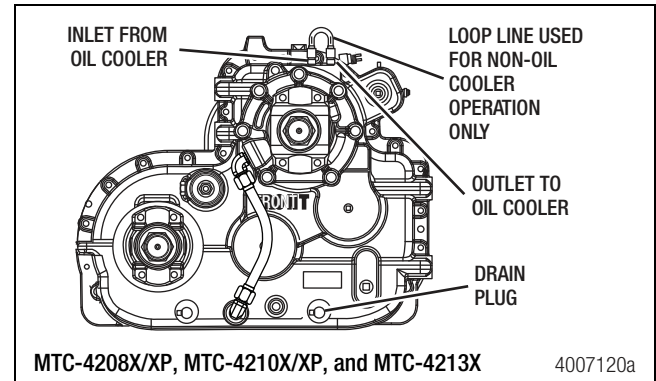
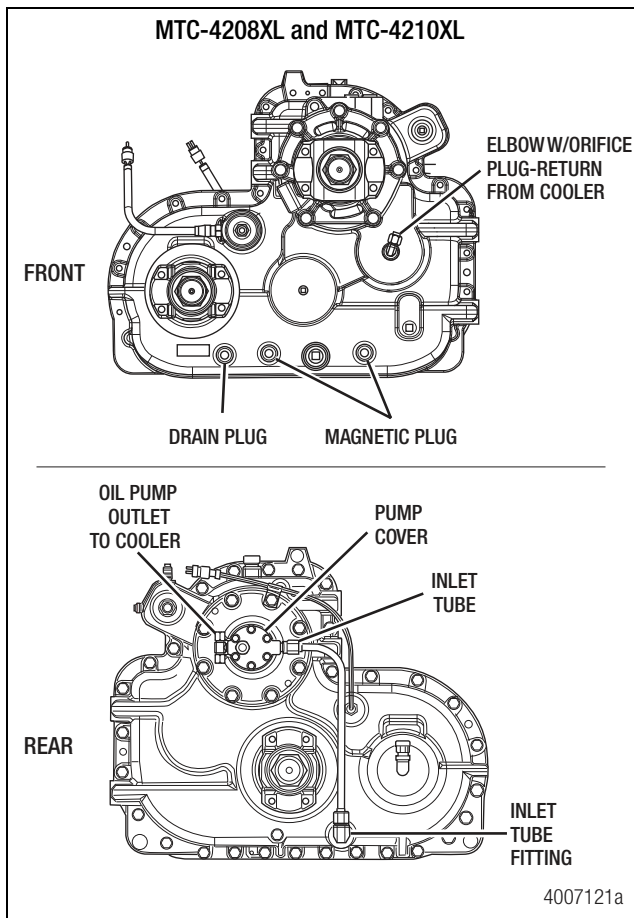
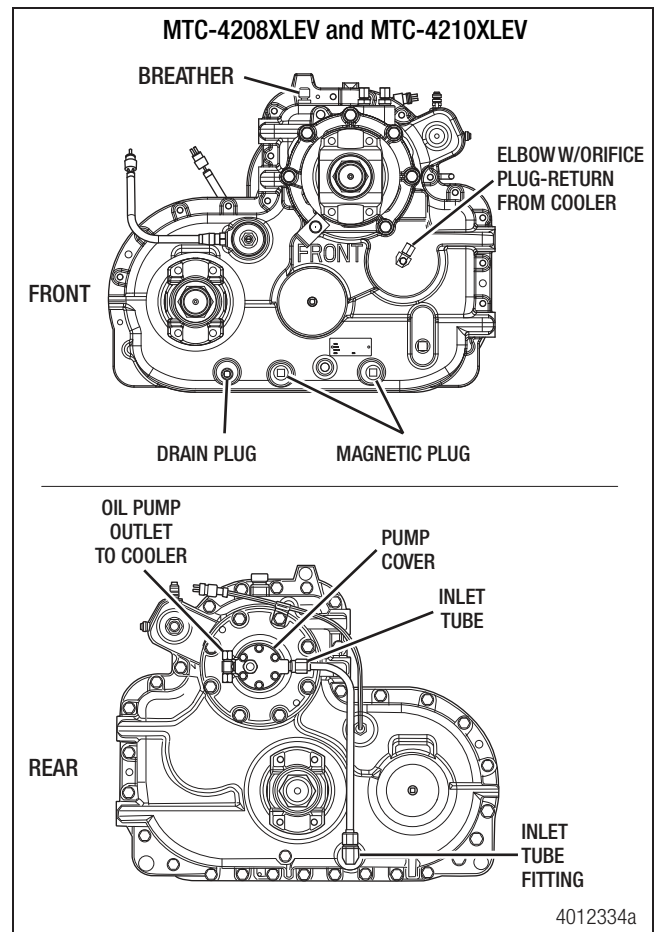
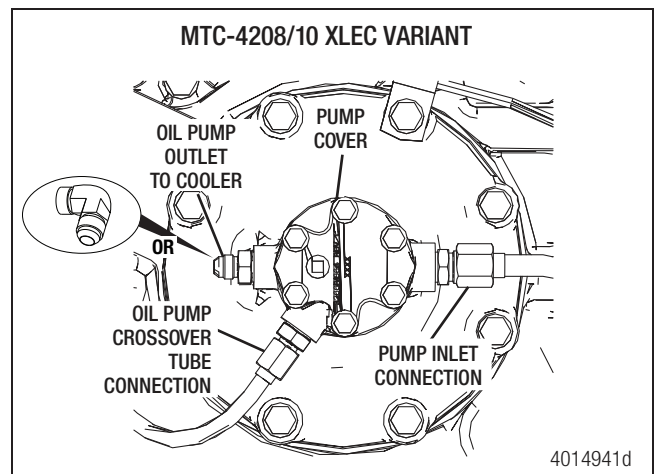

Figure 9.1
Figure 9.2
Figure 9.3
Figure 9.4
1. Disconnect the loop line on top of the transfer case connecting the pump exit and return ports on the transfer case. Figure 9.1 and Figure 9.2.
2. Install the cooler inlet line at the pump outlet. Connect the cooler outlet line to the front idler bearing orificed elbow. Figure 9.2, Figure 9.3, and Figure 9.4.